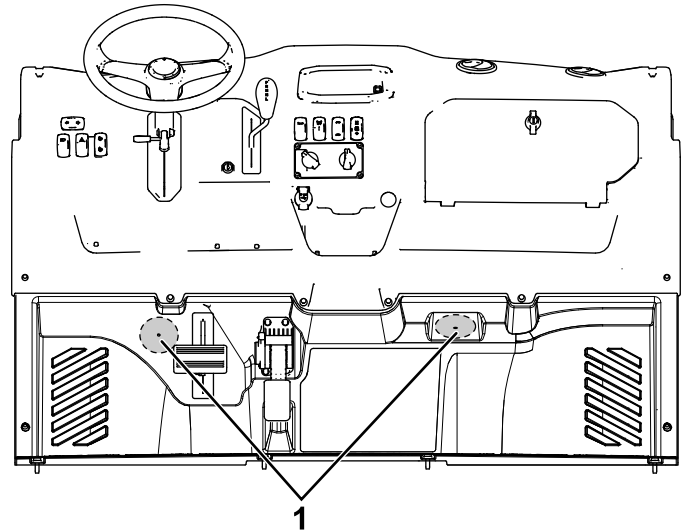

Figure 12
2. Locate the 2 drill pilot dimples on the floorboard (Figure 12) and drill 2 holes (76 mm or 3 inches) directly over the pilot dimples.